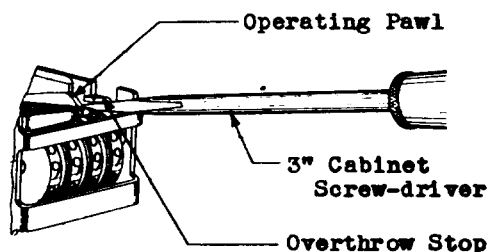
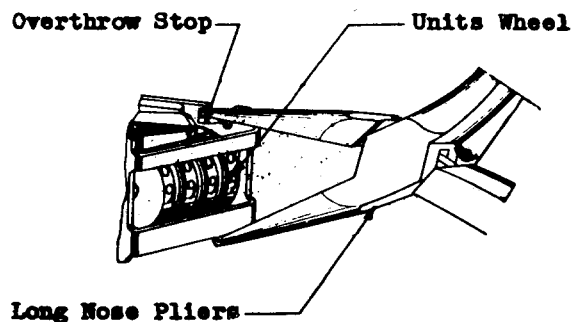

Fig. 10 – Method of Adjusting Overthrow Stop Upward
Fig. 11 – Method of Adjusting Overthrow Stop Downward
- (6) To provide a clearance between the overthrow stop and the pawl, pry the overthrow stop upward using the 3-1/2-inch cabinet screwdriver as shown in Fig. 10. To decrease the clearance between the overthrow stop and the pawl, force the overthrow stop downward with the long nose pliers. Apply the pressure at the free end of the stop as shown in Fig. 11.